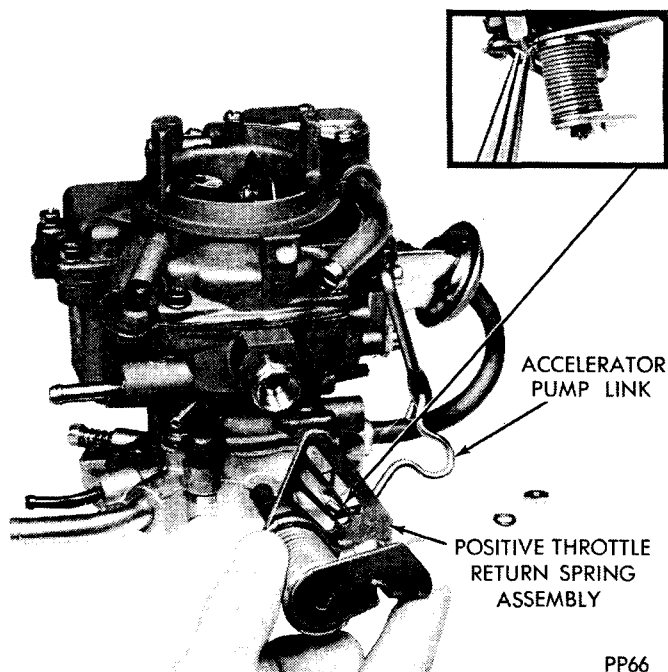
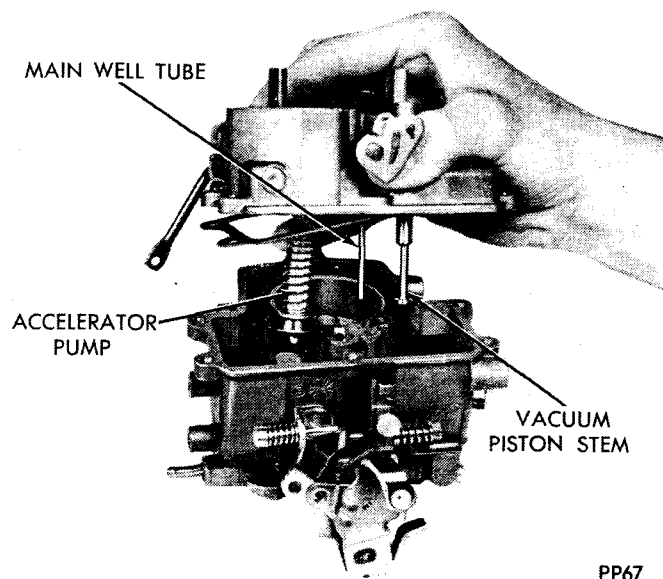

Fig. 10—Removing or Installing Positive Throttle Return Spring Assembly
Fig. 11—Removing or Installing Bowl Cover
(4) Remove the positive throttle return spring and pump rocker arm and linkage assembly (Fig. 10).
(5) Remove dash pot if so equipped. Remove seven bowl cover screws and lift bowl cover straight up until vacuum piston stem, accelerator pump and main well tubes are clear of the main body (Fig. 11).
(6) Insert check ball and weight into accelerator pump discharge well.
(7) Carefully position bowl cover on top of gasket. Be sure the leading edges of the accelerator pump cup are not damaged as it enters the pump bore. Be careful not to damage the main well tube (Fig. 11).
(8) Install seven bowl cover screws and tighten alternately, a little at a time, to compress the gasket evenly.
(9) Install positive throttle return spring (Fig. 10).